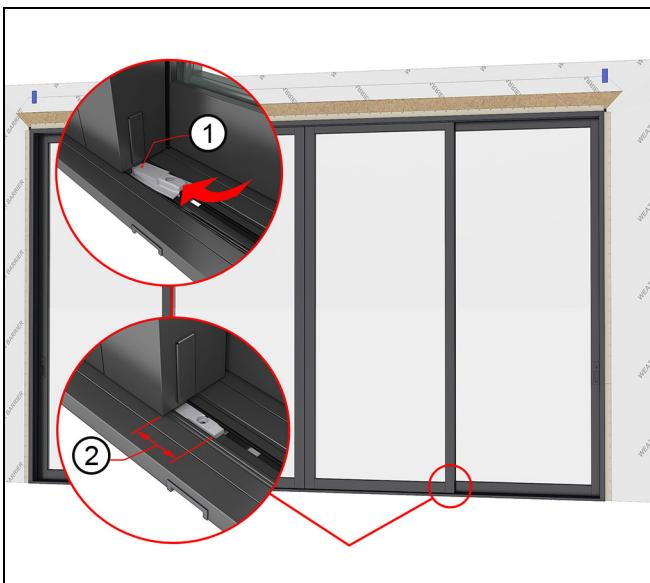

Figure 171
13. Snap the third and final lower stationary bracket onto sill, then slide underneath the (C) stationary panel until fully seated. The bracket should stick out approximately $2\frac{1}{4}$ " (57) from panel when fully seated. Fasten the lower stationary bracket with a #8 x 1/2" self drilling screw. See Figure 171.